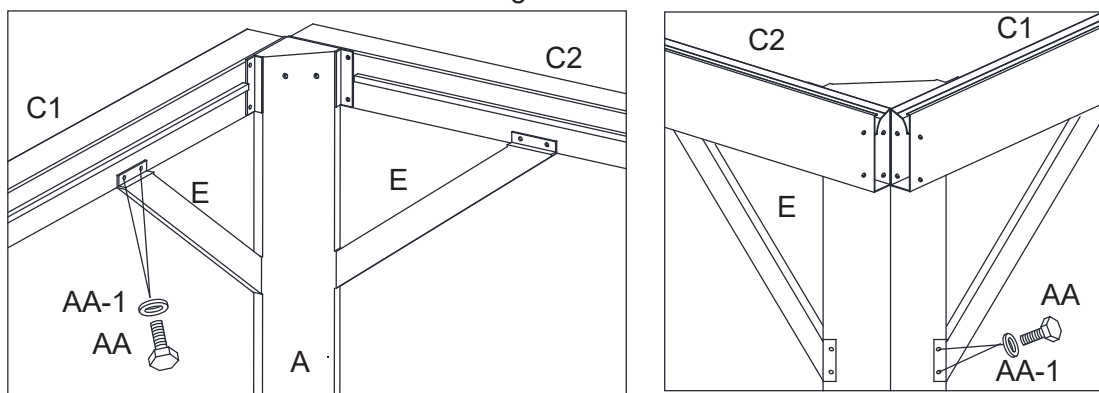

Figure 4-2
4.2. Attach Support Bars (E) to Corner Post (A) and to Lintels (C1/C2) with Bolts (AA) and washer (AA-1). See Figure 4-2.